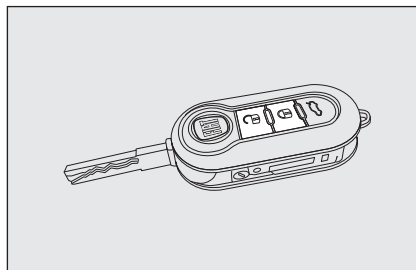
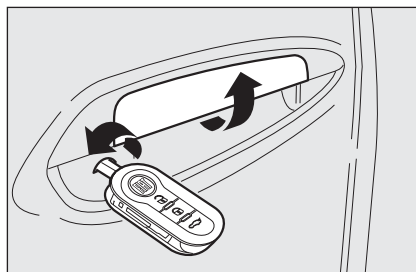
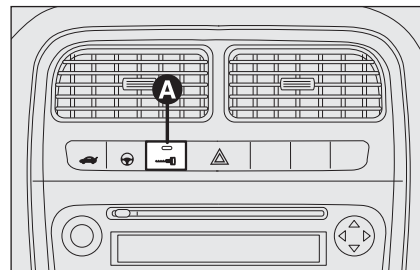

fig. 70
fig. 71
fig. 72
With the doors closed, press button **1** on the remote control **fig. 70** or insert the key into the lock of the door on the driver's side and turn it clockwise. Locking is signalled by the LED on button **A-fig. 72** coming on. The doors will be locked only if all doors are shut. If one or more doors are open after pressing button **1** on the remote control **fig. 70**, the direction indicators and the LED on button **A-fig. 72** flash quickly for approximately 3 seconds.
If one or more doors are open after turning the key, only the LED on button **A-fig. 72** will blink rapidly for approximately three seconds. If the doors are closed but the boot is open, the doors are locked: the direction indicators (only when locking is carried out using button **1** **fig. 70**) and the LED on button **A-fig. 72** flash quickly for approximately 3 seconds.
With this function active, it is however possible to unlock the other doors by pressing button **A-fig. 72** on the central panel.
Quickly pressing button **1** on the remote control **fig. 70** twice will engage the dead lock device (see paragraph "Dead lock device").
Briefly press button **1** **fig. 70** to unlock the doors remotely, turn on the ceiling lights for a limited period and double flash the direction indicators, or insert the key into the driver's door lock and turn it anti-clockwise as shown in **fig. 71**.
Press button **A-fig. 72** to lock/unlock all doors. The button has an LED that indicates whether the doors are locked or unlocked. When the doors are locked, the LED is on and pressing the button brings about central unlocking of all the doors and turns off the LED. When the doors are unlocked, the LED is off and pressing the button brings about central locking of all the doors. The doors will be locked only if all the doors are properly shut.
it will not be possible to unlock them by pressing button **A-fig. 72** located on the dashboard.
- ☐ locking/unlocking button **A-fig. 72**;
The dead lock device is automatically activated on every door by briefly pressing the remote control button **fig. 70** twice.
Device activation is indicated by 3 flashes of the direction indicators and a flash of the LED on button **A-fig. 72** on the dashboard.